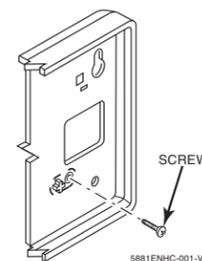

Figure 3: Tamper Protection
- c. If installing a 5881ENHC, install a flat-head screw (supplied) in the case tamper tab as shown in Figure 3. When the receiver is pried from the wall, the tamper tab will break off and remain on the wall. This will activate a tamper switch in the receiver and cause generation of a tamper signal. Note that this signal will also be generated when the receiver's front cover is removed.
1. Mount the rear half of the 5800BOX directly to the wall in the selected location, hinged side up. Secure using the 4 screws provided and insert screw in tamper tab, refer to *Installation*, step 3c and Fig. 3.